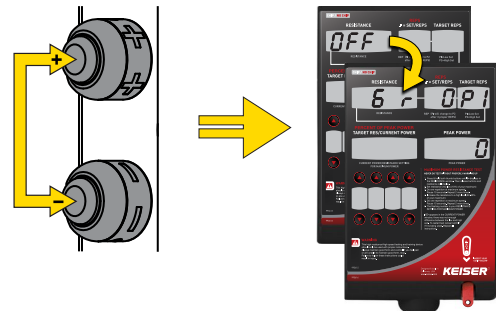

Figure 10. Start Power Test Mode
1. Press and hold both Thumb Buttons (+/-) for approximately three seconds until "6r" displays in the RESISTANCE window. Then, release the Thumb Buttons. NOTE: The current resistance will display and "P1" appears in the TARGET REPS (see Figure 10).